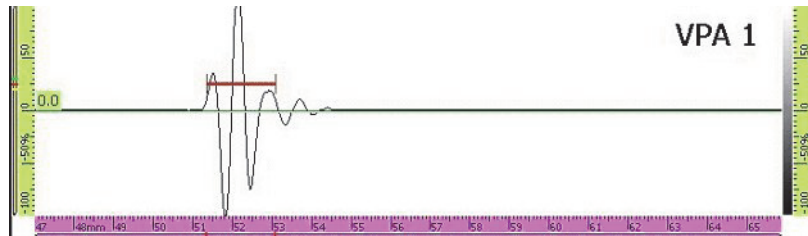

Figure 7-6 Gate A on the ball signal
7. Using the **Start** and **Width** parameter buttons, set gate A across the signal, as shown in Figure 7-6 on page 195.